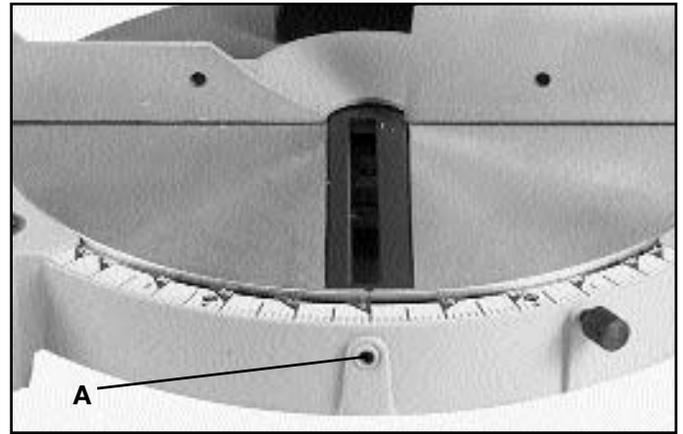

Fig. 25
The rotating table has positive stops at the 90 degree straight cut-off position and 22-1/2, 30 and 45 degree right and left miter positions. To adjust the spring pressure of the positive stops, tighten or loosen screw (A) Fig. 25. **NOTE:** Do not tighten screw (A) to the point where it becomes difficult to rotate the table.